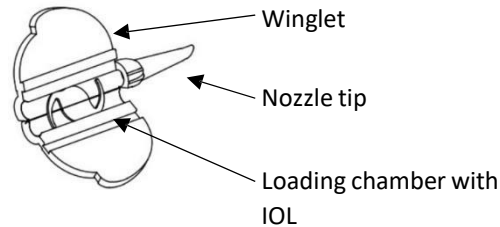

Fig. 1
6. Hold open the winglet of the cartridge, center the IOL and gently push the lens down with the forceps to ensure that the nearest edge of the optic is securely seated under the edge of the loading chamber as shown in Fig. 1.